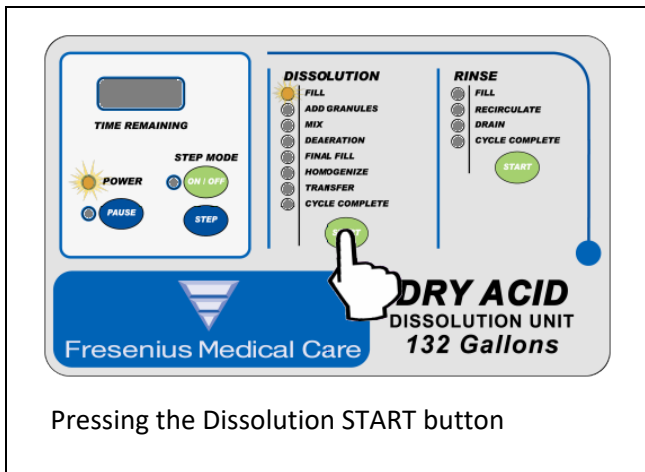

Figure 5
1. Before initiation of Dissolution Cycle, ensure the tank is empty, the two (2) propellers are attached to the Mixer Shaft, and the 1 micron filter is installed in the Concentrate Filter Housing (Diagram 2, page 9) by ensuring that there is a filter present. Ensure that the water supplied to the machine is between 20 and 30°C (68 and 86°F) for proper dissolution and mixing. Ensure you have the appropriate personal protective equipment donned. If the filter is not present in the filter housing, refer to Section 8.4.1, Filter Removal and Replacement.
2. Ensure the power switch is ON and water supply valve is in the OPEN position, then place the Dry Acid Dissolution Unit in Dissolution Cycle FILL Operation by pressing the Dissolution side START button (Figure 5).